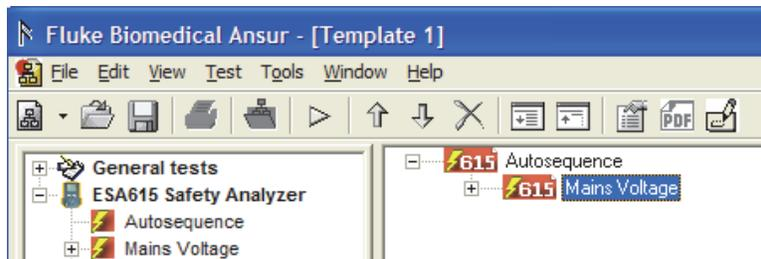

Figure 3-17. Add an Electrical Safety Tests to the Autosequence
3. Click and hold on the Autosequence entry in the test explorer window and pull and release it in the template window. A copy of the Autosequence shows in the template window as shown in Figure 3-17. The Autosequence entry is a holder of tests that are done on a DUT.
4. To add tests to the Autosequence, click and hold on the necessary test in the Test Explorer window. Pull it until it is on top of the Autosequence entry in the Template Window and release it. The Mains Voltage test is added to the Autosequence shown in Figure 3-17.